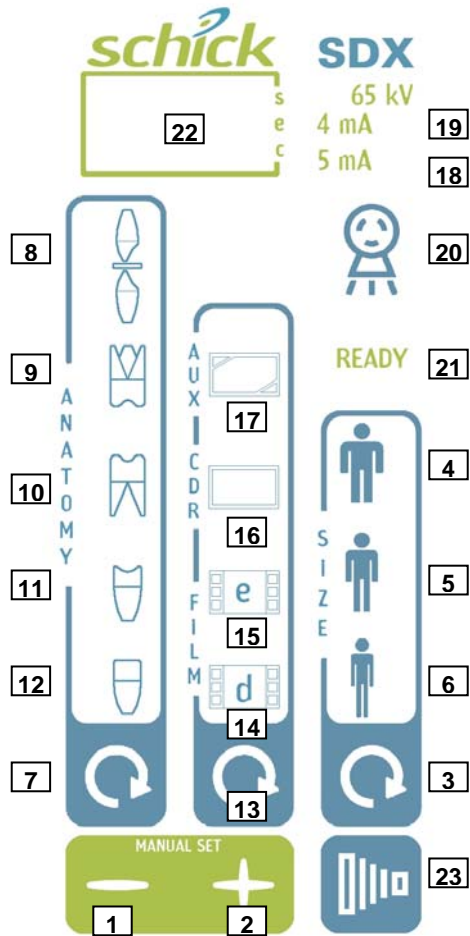

Figure 3. SDX Remote Keypad
The following symbols are used in this manual and on SDX. Symbols and icons located on the Remote Keypad can be found on Figure 3 and are described in Table 1.
*NOTE:* Bold numbers in the following procedure refer to Figure 3.
*NOTE: Bold numbers in the following procedure refer to Figure 3.*
*NOTE:Bold numbers in the following procedure refer to Figure 3.*
1. Press the imaging media button (13) to select Aux (17) (if not already selected). To enter editing mode for custom exposure times, press (13) and (7) at the same time. Editing mode is confirmed when the Aux LED (17), the time for the selected tooth / size combination (22), and the anode current LEDs (18) and (19) are flashing.
2. Press the patient size (3) and anatomy (7) buttons to display the exposure times for those settings, then use the increase (2) or decrease (1) buttons to change the custom exposure time for that size / tooth anatomy combination.
3. Press the imaging media button (13) and either the increase (2) or decrease (1) button at the same time to change the anodic current used for that size / tooth combination.
5. Confirm the changes by pressing the Exposure button (23). When the display / LED stops flashing, the new exposure time has been saved.